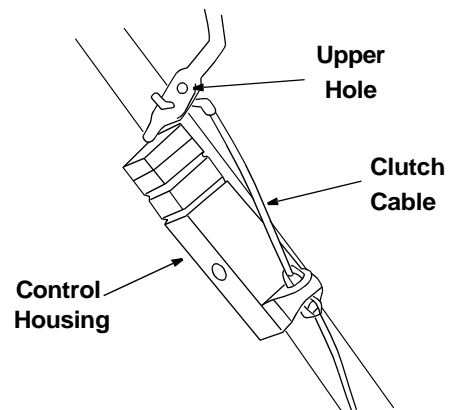

Figure 14
- The upper hole in the control handle provides adjustment for belt tension. To adjust, disconnect the "Z" end of control cable from the bottom hole in the control handle. See Figure 14. Hook the cable into the upper hole in control handle as shown.